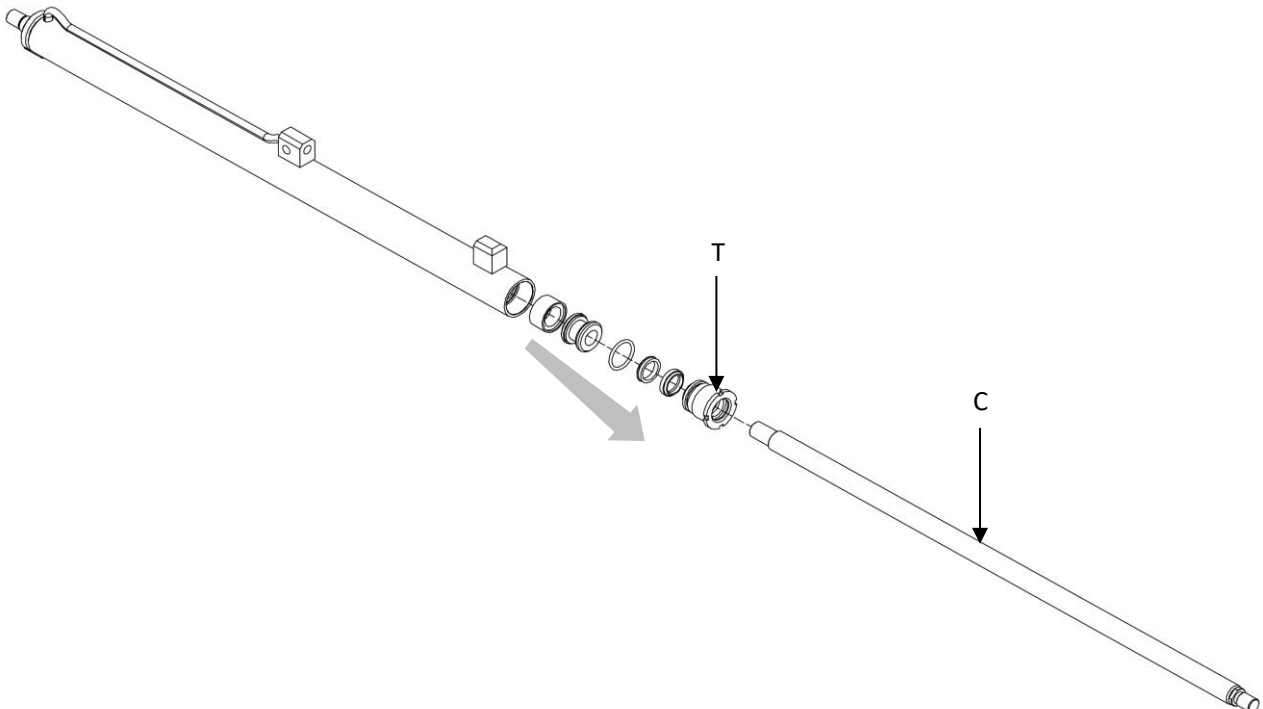

Figure 49
8. Use *Figure 49 as a guide*.